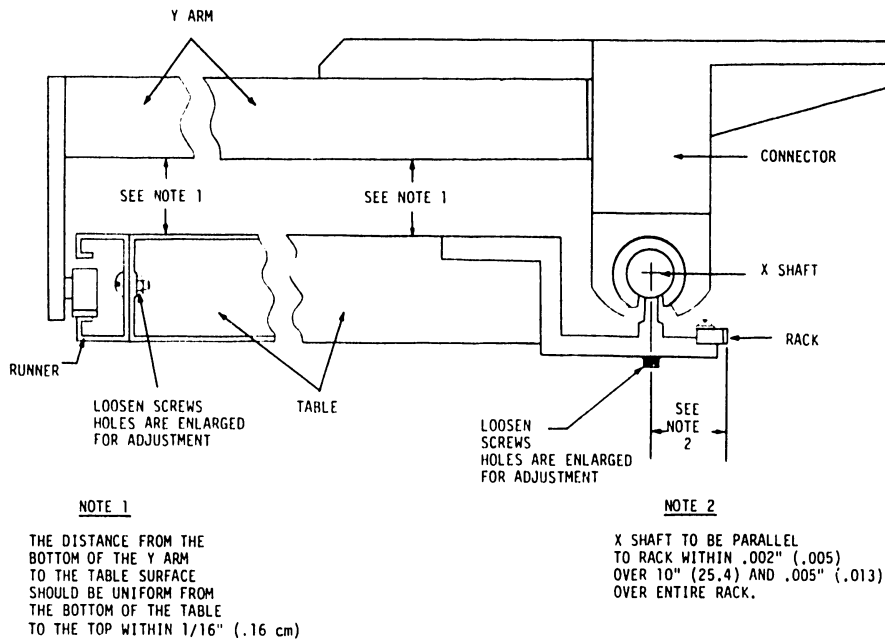

FIGURE 9
- 2) Take a reading with a 6" scale at the bottom edge and at the top edge of the table. If adjustment is necessary, loosen all screws inside the runner and raise or lower the runner to correct the difference. See Figure 9.
- 2) To adjust for this, loosen the 6 screws directly beneath the X shaft and move the shaft to the specified position. See Figure 9.